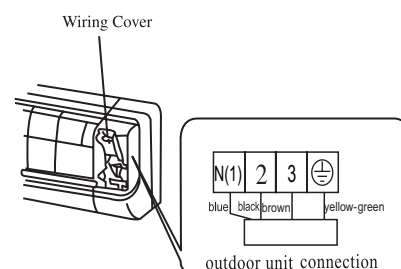

Fig.2
2. Remove the wiring cover. Connect and fix power connection cord and signal control wire (only for heat pump type) to the terminal board as shown in Fig 2.